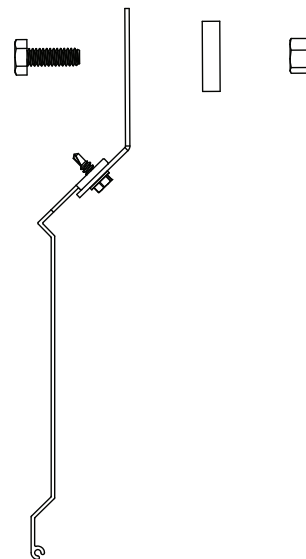

Figure 2
2. Attach the counterweight to the bracket with a nut and bolt as shown in Figure 2.